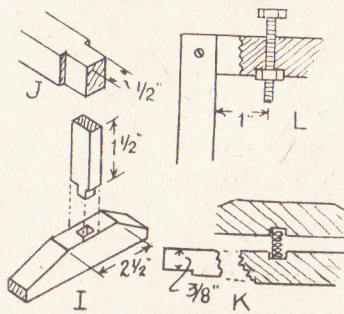

Fig. 2
two pieces of wood $\frac{3}{4}$ in. wide and $\frac{1}{2}$ in. thick to the length given at (I) in Fig. 2, plus the depth of the mortise. Glue these parts in the feet, then bevel the ends down, as shown in the diagram.
Before replacing the top crossbar, bore a hole $1\frac{1}{4}$ ins. from each end, for the adjusting screws to enter. These are a pair of $\frac{1}{4}$ in. by 2 in. or 3 in. steel bolts, with hexagon heads and nuts. In the underside, chisel out recesses for the nuts to enter about halfway, as at (L) Fig. 2. Now replace the bar, and turn the bolts until they press, not too heavily, on the rollers. A good idea is to bore a shallow recess in the top bar, at each of the places the bolts bear upon, to prevent any side shifting of the bar.